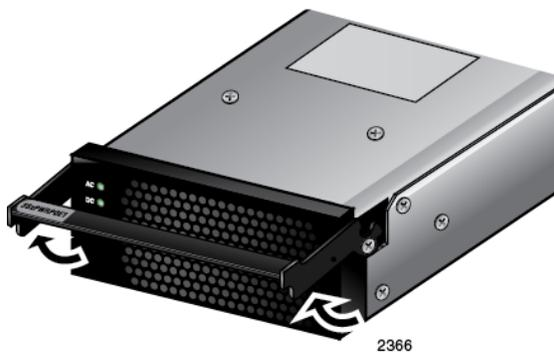

Figure 55. Raising the Handle on the AT-SBxPWRPOE1 AC Power Supply
4. Raise the locking handle on the AT-SBxPWRPOE1 AC Power Supply, as shown Figure 55 on page 116.